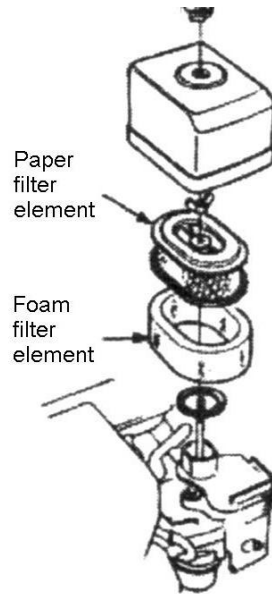

Figure 15. Air Filter
2. To clean or replace air filter loosen the wing nut on the air filter housing (figure 15), remove the cover and take out air filter cartridge. If only cleaning of the air filter is desired blow through the air filter cartridge from the inside, moving a jet of dry compressed air up and down until all dust is removed.